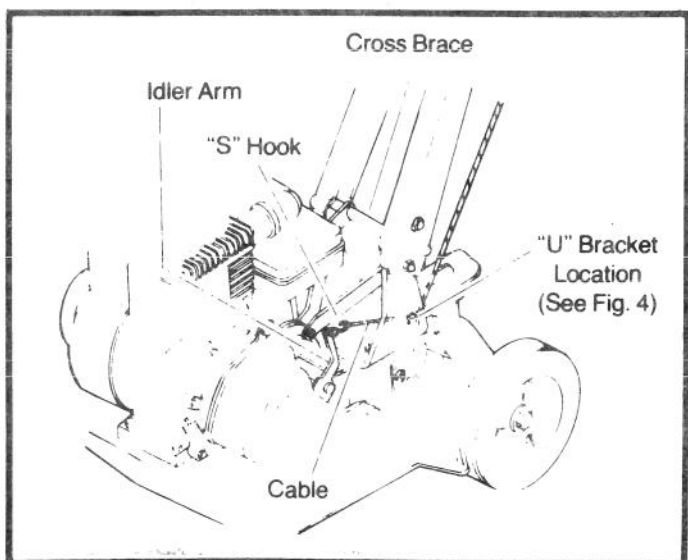

FIGURE 6
3. Hook one side of "S" hook* onto cable*, hook other side of "S" hook onto idler arm, Fig. 6.
NOTE: Be sure cable runs straight from idler arm to "U" bracket (**below** cross brace shown in Fig. 6) then to adjustment stud.